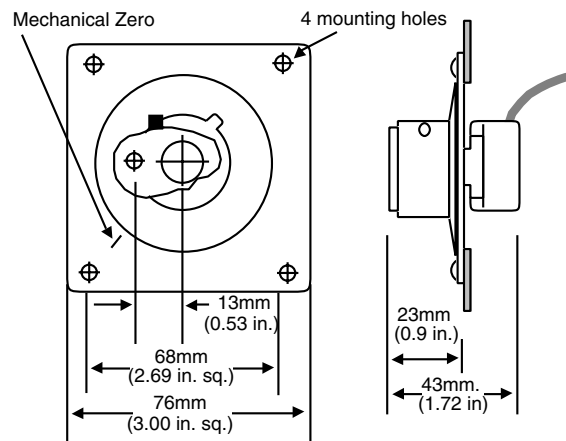

Figure 2b — Setpot dimensions and mechanical zero location.
1. Drill two 51mm (2.0 in.) diameter holes in the desired remote setpot assembly location. See Figure 2b.
4. Drill four 5mm (0.189 in.) diameter holes in desired panel location. See Figure 2b.